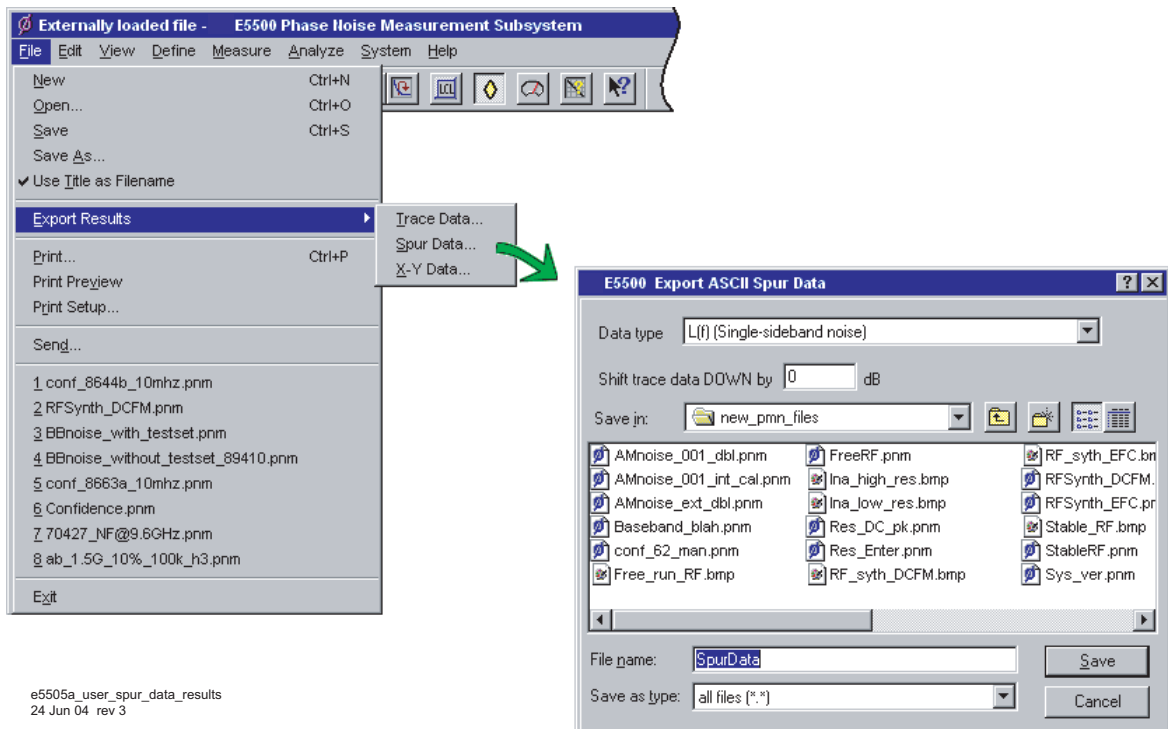

Figure 69 Spur data results
- 1 On the **File** menu, point to **Export Results**, then click on **Spur Data**. See Figure 69.